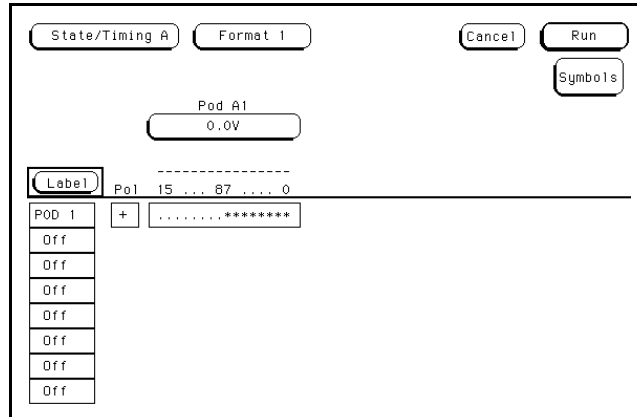

Figure 3-40. Format Screen
3. Configure the Format screen for User Defined pod threshold of 0.0 V for the pod under test and assign the appropriate eight bits in the Bit Assignment field as shown in figure 3-40. Refer to steps *a* and *b* if unfamiliar with menus.